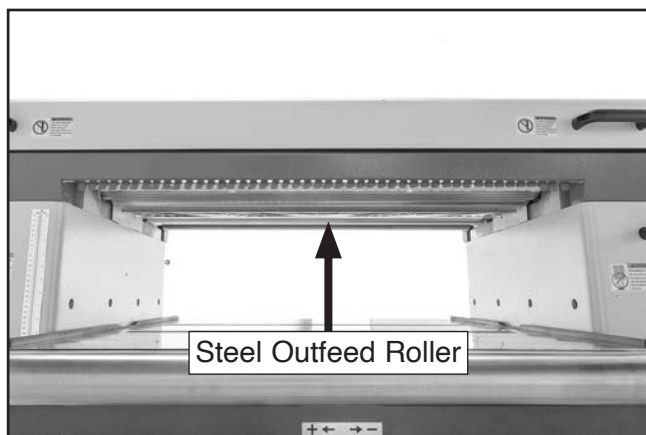

Figure 102. Location of steel outfeed roller.
2. Position Rotacator/dial indicator under left side of steel outfeed roller (see **Figure 102**).